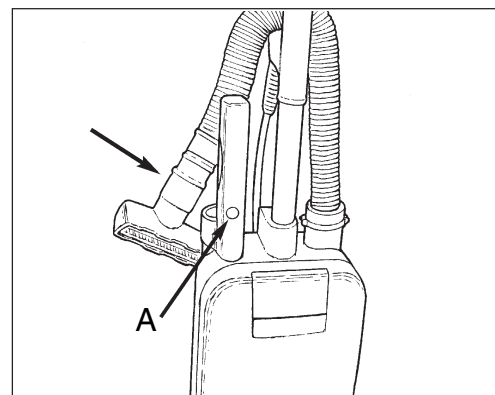

Figure 16
**NOTE:** Push button on wand handle to release the hose from the wand (see figure 16, item A).